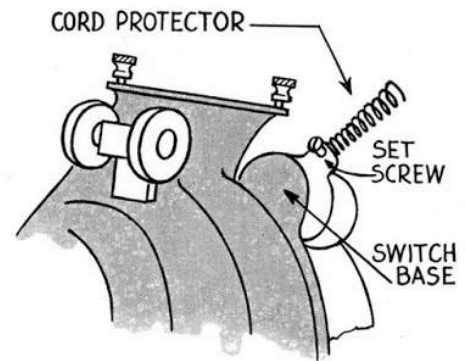

FIG. 112—Bottom view of foot switch
- a. Loosen set screw under base of switch and pull cord protector out of the switch base. Figure 112.